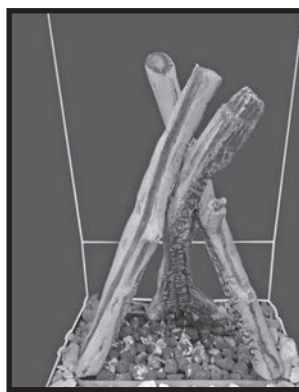

Figure 45: Log 3.
3. Lean left log against log set (Figure 45).